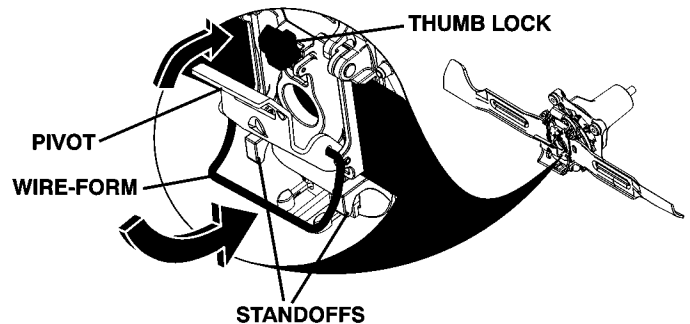

Fig. 32
- Push pivot closed until secured by the thumb lock. (See Fig. 32.)